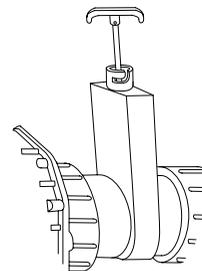

Figure 4
2. Open all knife valves (see Figure 4) that are pointing up. Leave all valves that are facing down closed. Fill the hot tub with water from a garden hose. You can hang the hose over the edge of the hot tub or hook it up to the black drain/fill valve located down by the pumps and fill from the bottom. Allow some water to run out of the drain fitting to release any potential stagnant water.
- Open the air bleed knobs to release any air trapped in the external plumbing. There is one on the 300 and 500 series hot tubs, two on a 500 series with Hush pump and a standard 700 series and three on a 700 series with Hush pump. Once all air is bled from the system, open any knife valves that are facing down. See Figure 4.